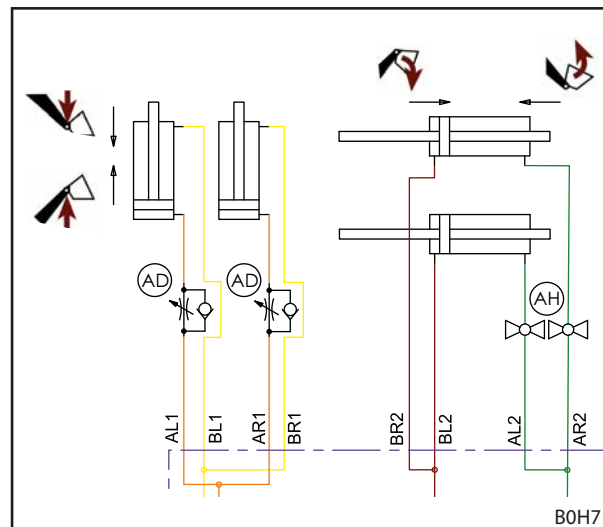

Fig. 136 Lowering throttle hydraulic diagram
**i** Fig. 136 shows excerpts from the hydraulic diagram for the optional lowering throttle and shut-off valves on the implement cylinders. Depending on the front loader, the rest of the hydraulic diagram corresponds to the illustration in 11.4.1 FS hydraulic diagram and 11.4.2 Hydraulics diagram FZ and FZ-L.